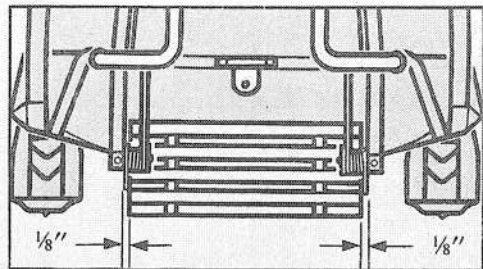
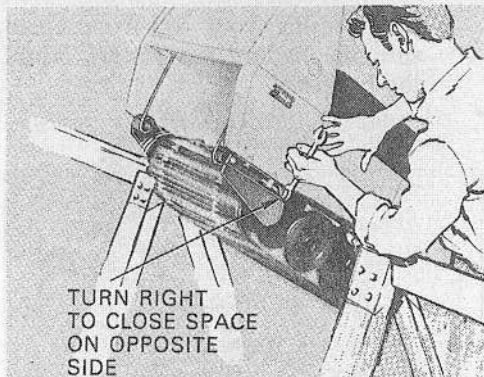

Figure 55
Figure 67
**ALIGNMENT:** Start the engine. Press slowly on the accelerator handle until the track(s) turns. The clearance between the edges of the track and the adjuster link plates should be the same on both sides (approx. ⅛"). Verify this clearance while the track(s) turn(s) slowly. See Fig. 55 and/or 57. If a readjustment is needed, refer to page 39, Fig. 67.
ALIGNMENT: While the machine is blocked off the ground, run the engine so that the track(s) will turn slowly. Check if it is (they are) well centered on the sprocket teeth. The distance between the edges of the track(s) and the adjuster link plates (c) should be approximately ⅛" on both sides. See page 34, Fig. 55 or 57.
See Fig. 67. It will move toward the other side.